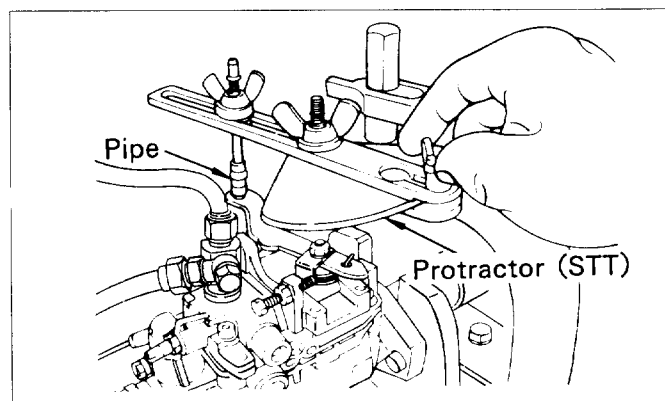

Fig.15-8 Installing the protractor
(8) Connect the adjusting lever protractor. (See Fig.15-8)
The pipe shown in Fig.15-8 is required for connection of the adjusting lever. Prepare the pipe illustrated below.